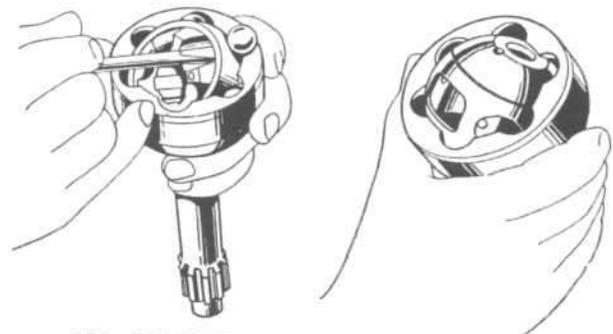

FIG. 230—DISMANTLING RZEPPA JOINT
The Rzeppa type illustrated in Figs. 230 and 231 and the Spicer type illustrated in Fig. 234 are used in production. Service procedure covering these type joints is outlined below.
- e. Push down on various points of the inner race and cage until the balls can be removed with the help of a small screw driver in the manner illustrated in Fig. 230.